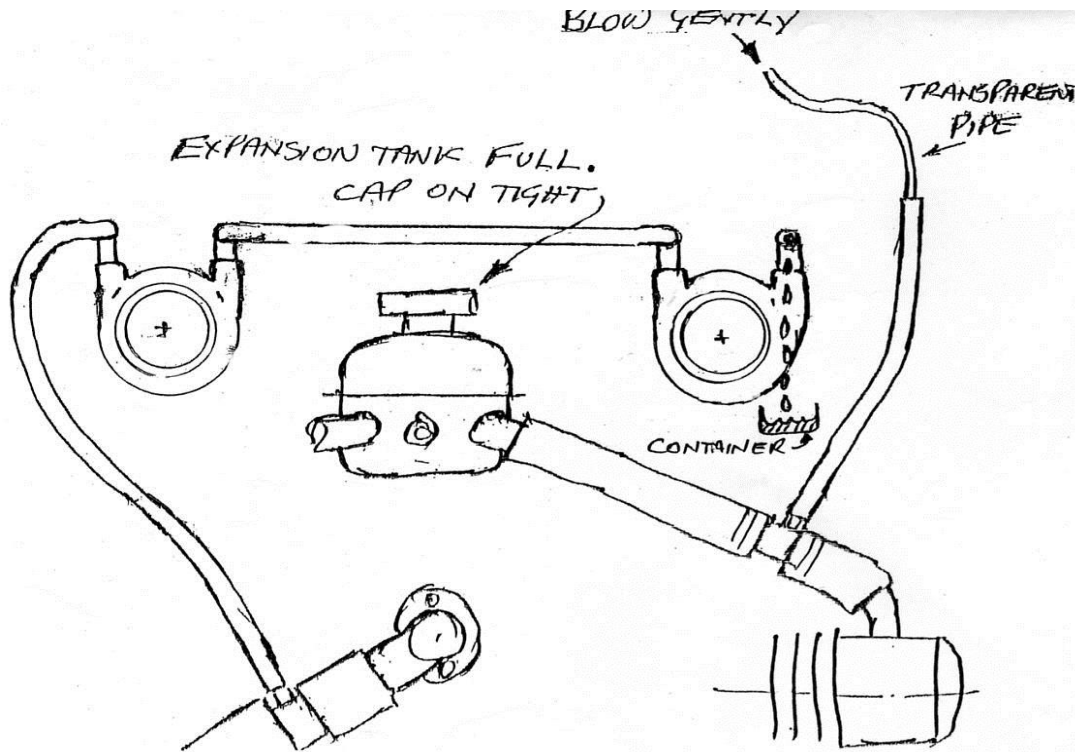

Fig. 4
- If no coolant comes from the open connector when the expansion tank is full right to the brim, this is probably because there is air in the system that needs to be purged. To purge the system, push the end of the transparent plastic tube supplied into the open end of the rubber hose (see Fig 4 on the following page). Check that the coolant is full to the brim and refit the filler cap. Blow gently into the transparent plastic tube until coolant drips steadily from the hose barb on the heater block (DO NOT SUCK ON THE TUBE OR YOU WILL GET ANTIFREEZE IN YOUR MOUTH, WHICH IS HARMFUL) – if preferred a bicycle pump can be used to gently blow into the hose.